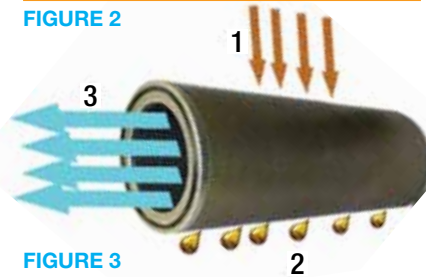

FIGURE 3
Basically, oil is separated from the air stream in a vacuum pump by gravity, baffles, and also the final stage, which is a coalescing oil separation filter element. All of these are internal to the pump. Consequently, the excessive air picks up oil, carries it through the baffle area, and then saturates the outside of the coalescing element. Eventually, this oil is forced through the element, and an oil smoke appears at the exhaust of the pump. This is what the user will be calling you about, and nine times out of ten, if the element is relatively new, it’s because the vacuum level is not high enough in the system. Fig 3 demonstrates this: (1) oil-saturated air enters outside of element, (2) oil coalesces and falls back into the oil reservoir, and (3) clean air exits the pump exhaust.